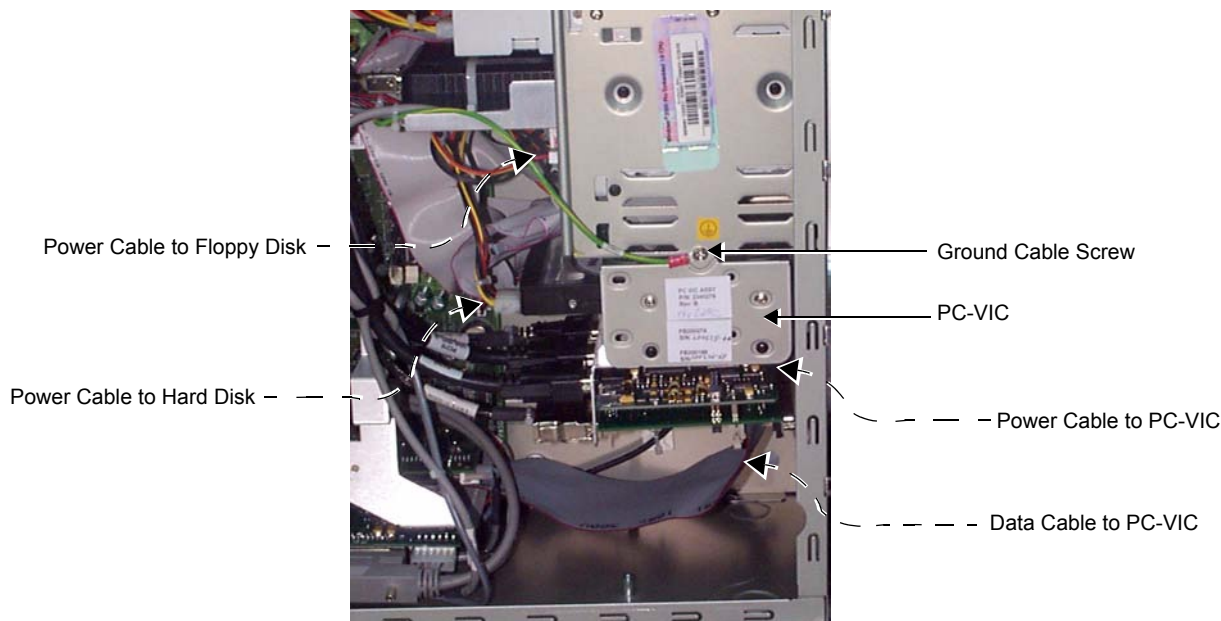

Figure 8-62 Disconnecting Cables
- 13.) Remove the screw that fastens the Ground cable and PC-VIC in position, as shown in Figure 8-62 below.
- 14.) Disconnect the power cable from the Hard Disk (labelled [4] in Figure 8-61); refer also to Figure 8-62.
- 15.) Disconnect the data cable from the PC-VIC (refer to Figure 8-62, above).
- 16.) Slide the PC-VIC & hard disk out sufficiently to be able to cut any cable ties and disconnect the power cable (labelled [5] in Figure 8-61) from the PC-VIC; refer also to Figure 8-62, above.
- 17.) Disconnect the power cable from the Floppy Disk (labelled [6] in Figure 8-61); refer also to Figure 8-62, above.
- 10.) Return the Ground cable and screw that fastens the PC-VIC in position, as shown in Figure 8-62 on page 8-77.